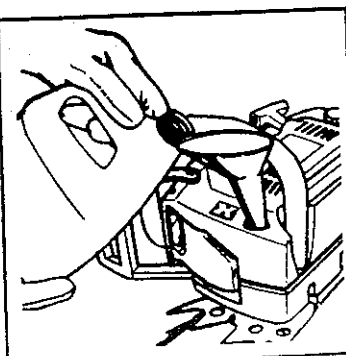

Figure 12
- d. Fill the oil tank. Figure 12.